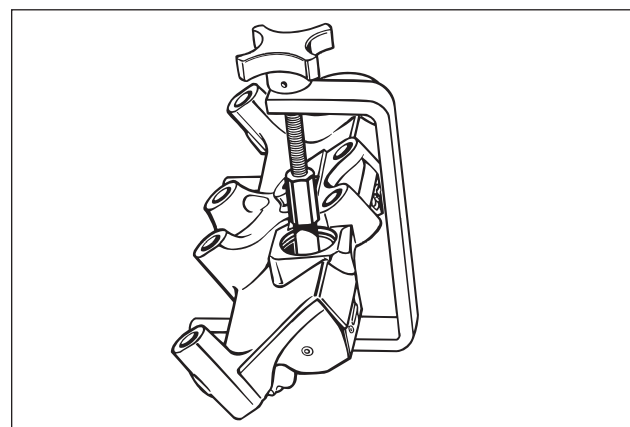

FIG. 15
2. Place the hole in the Jacobs slave piston tool (P/N 018238) over the slave piston adjusting screw, and the cup over the slave piston foot (see Fig. 15).